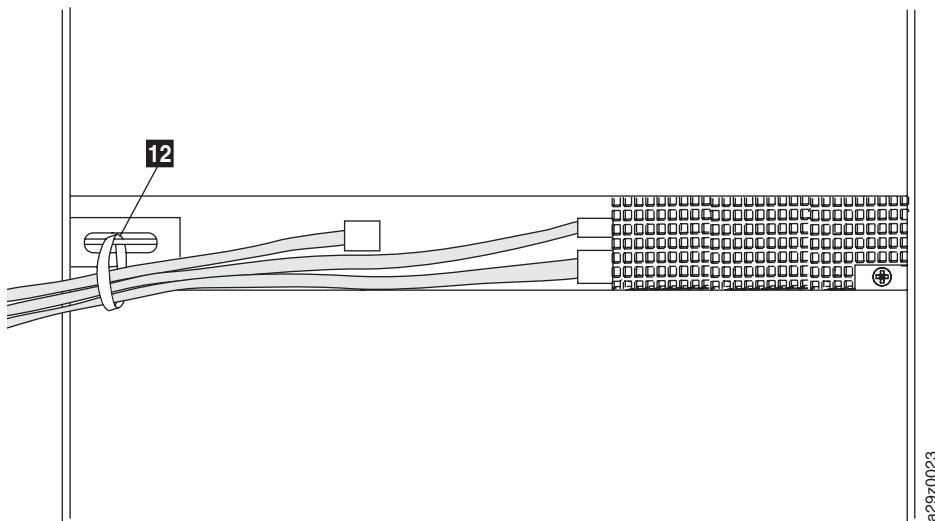

Figure 8-3. Remove cables at the rear of the library
9. Remove the SAS cable, power cable, and Ethernet cable from the hook and loop fastener strap **12** on the rear of the library (Figure 8-3).